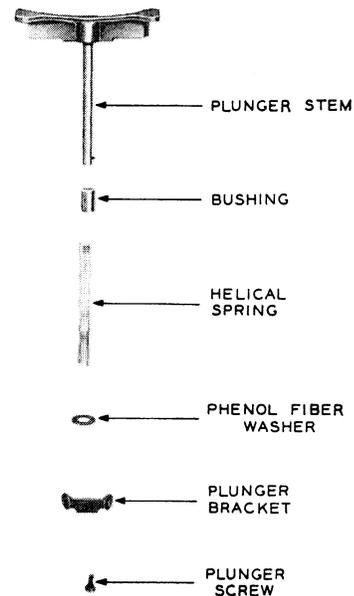

FIG. 6—PLUNGER ASSEMBLY
- 4.04 When replacing plunger assembly, the phenol-fiber washer must be placed on the plunger stem prior to the plunger bracket (see Fig. 6).